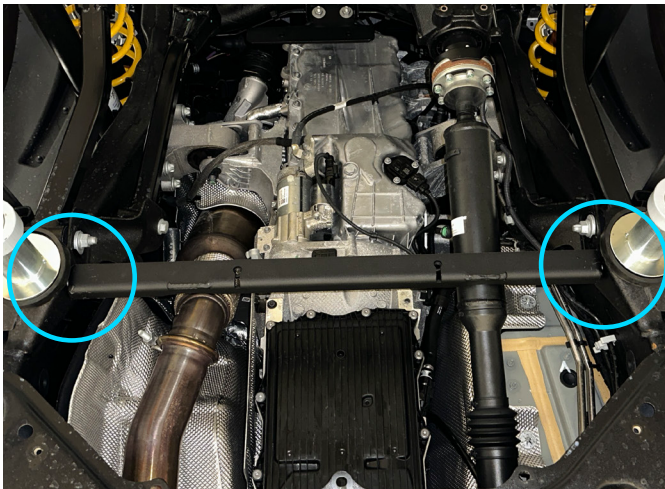

Fig. 3
3. Secure crossmember (item 2) using M10x150 bolts (item A), M10 washers (item E), spacers (items D or G), nuts M10 (item F) as shown in fig. 3 & 4.